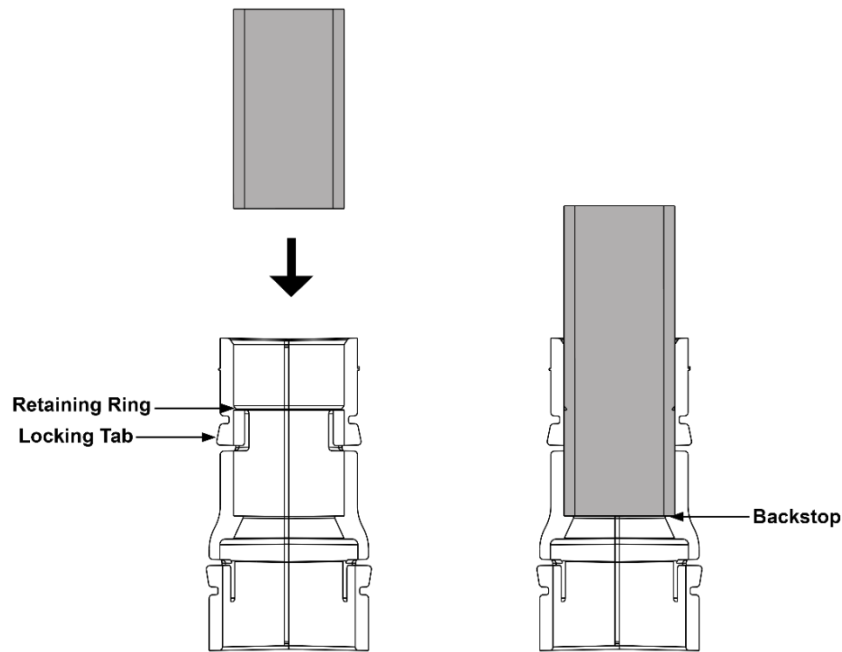

Figure 13: Securing hose pieces into adapter
4. Place the upper adapter on the final run hose piece, making sure that the hose is pushed into the adapter past the retaining ring and locking tabs until it hits the backstop (about 2 inches), as shown in Figure 13. Try to keep the sensor mounted vertically. Secure using a hose clamp.